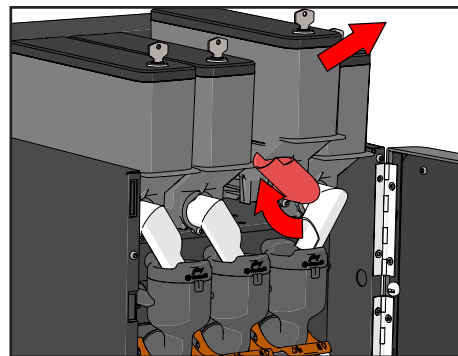

Figure 44.
2. Turn up the spouts of the instant containers and remove the canister from the machine (see Figure 44).